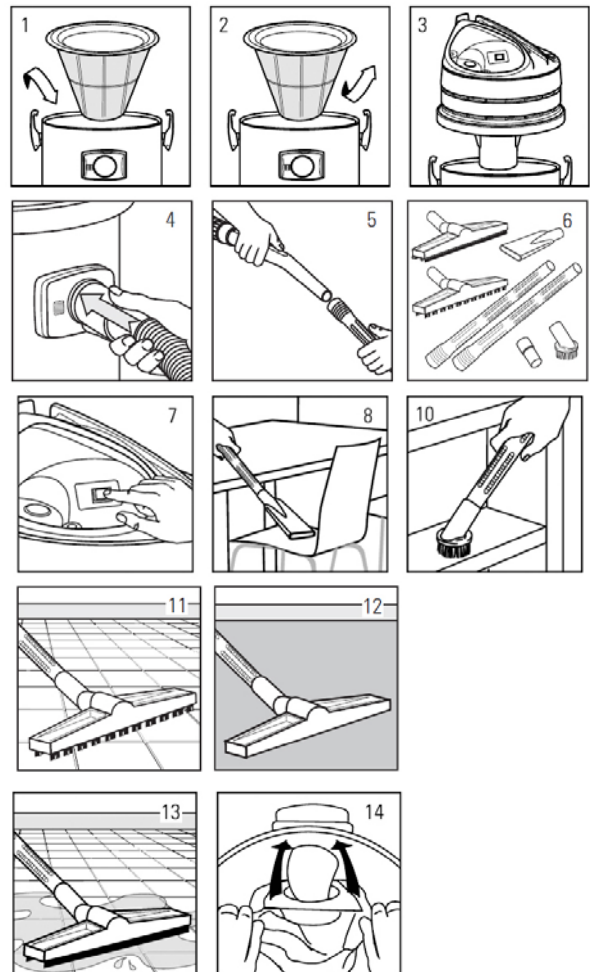

Fig. 7: Operation
- Step 1: Insert the polyester filter in the tank (Pos. 1, Fig. 7).
- Step 2: Assembly the head on tank and block it by hooks (Pos. 3, Fig. 7).
- Step 3: Connect the flexible hose into the inlet (Pos. 4, Fig. 7).
- Step 4: Plug suction pipes to other side of suction hose (Pos. 5, Fig. 7).
- Step 5: Select and connect the necessary accessories (Pos. 6, Fig. 7).
- Step 6: Slide the paper filter onto the deflector, it is located in the device (Pos. 14, Fig. 7).
- Example of use of flat lance (Pos. 8, Fig. 7)
- Example of use of upholstery attachment (Pos. 9, Fig. 7)
- Example of use of round brush (Pos. 10, Fig. 7)
- Example of use of brush on the floor (Pos. 11, Fig. 7)
- Example of use of brush on the carpet (Pos. 12, Fig. 7).
- Step 1: Remove the polyester filter (Pos. 2, Fig. 7).
- Step 4: Connect the extension to other side of flexible hose (Pos. 5, Fig. 7).
- Step 5: Connect the water suction nozzle L (Pos. 6, Fig. 7)
- Step 6: Connect the plug to power socket then switch on the vacuum cleaner (Pos. 7, Fig. 7)
- Example of use of water suction nozzle (Pos. 13, Fig. 7)